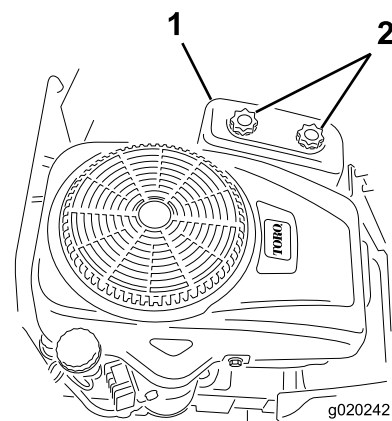

Figure 27
3. Remove the air-cleaner cover by unscrewing the 2 knobs (Figure 27).
3. Install the air-cleaner cover, and tighten the 2 knobs (Figure 27).